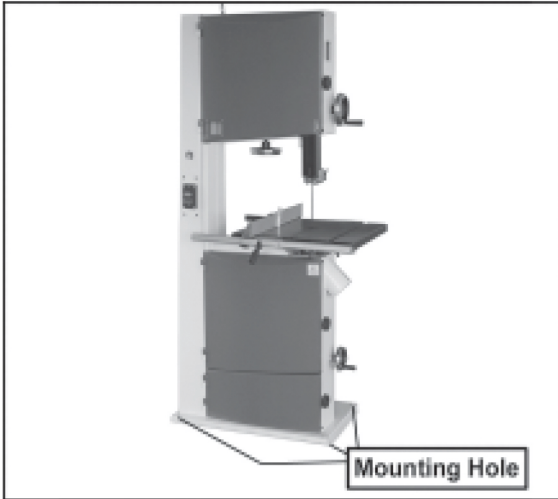

Figure 1
**WARNING!** To ensure sufficient upright stability and safety of this Bandsaw, you need to bolt the Bandsaw to the floor with M10 screws.(Fig 1)(not supplied)